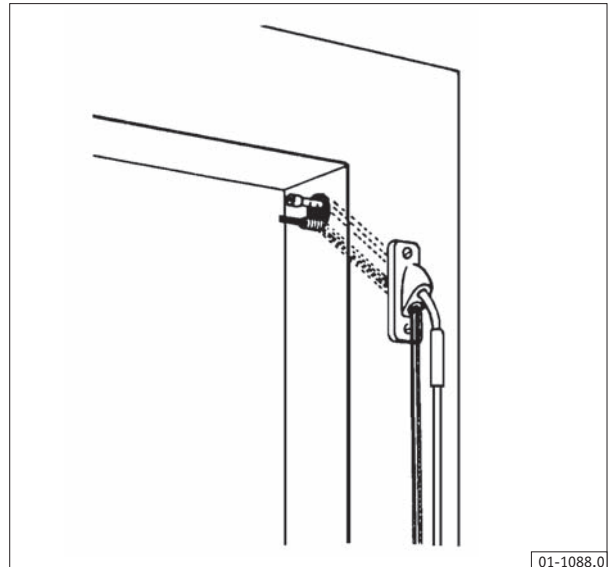

Figure 15.16
- 1 Drill a $\varnothing 12$ mm feed-through hole in the frame (see figure 15.16).